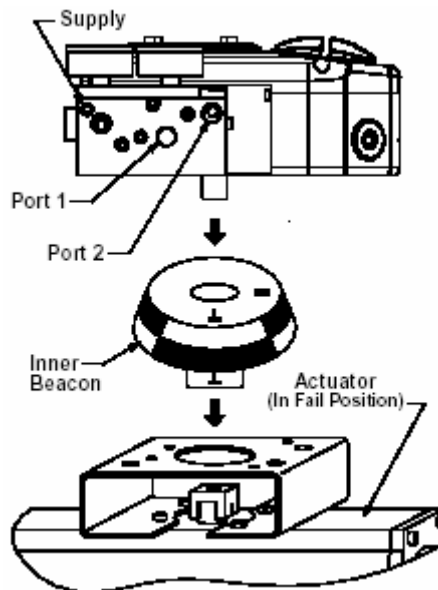

Figure 5
- 8.1.2. Press fit the inner beacon to the inner beacon coupler. The inner beacon needs to be properly oriented. Use the symbols on the top of the inner beacon to mount as shown in Condition 1 or Condition 2 (See Figures 5 and 6 below).